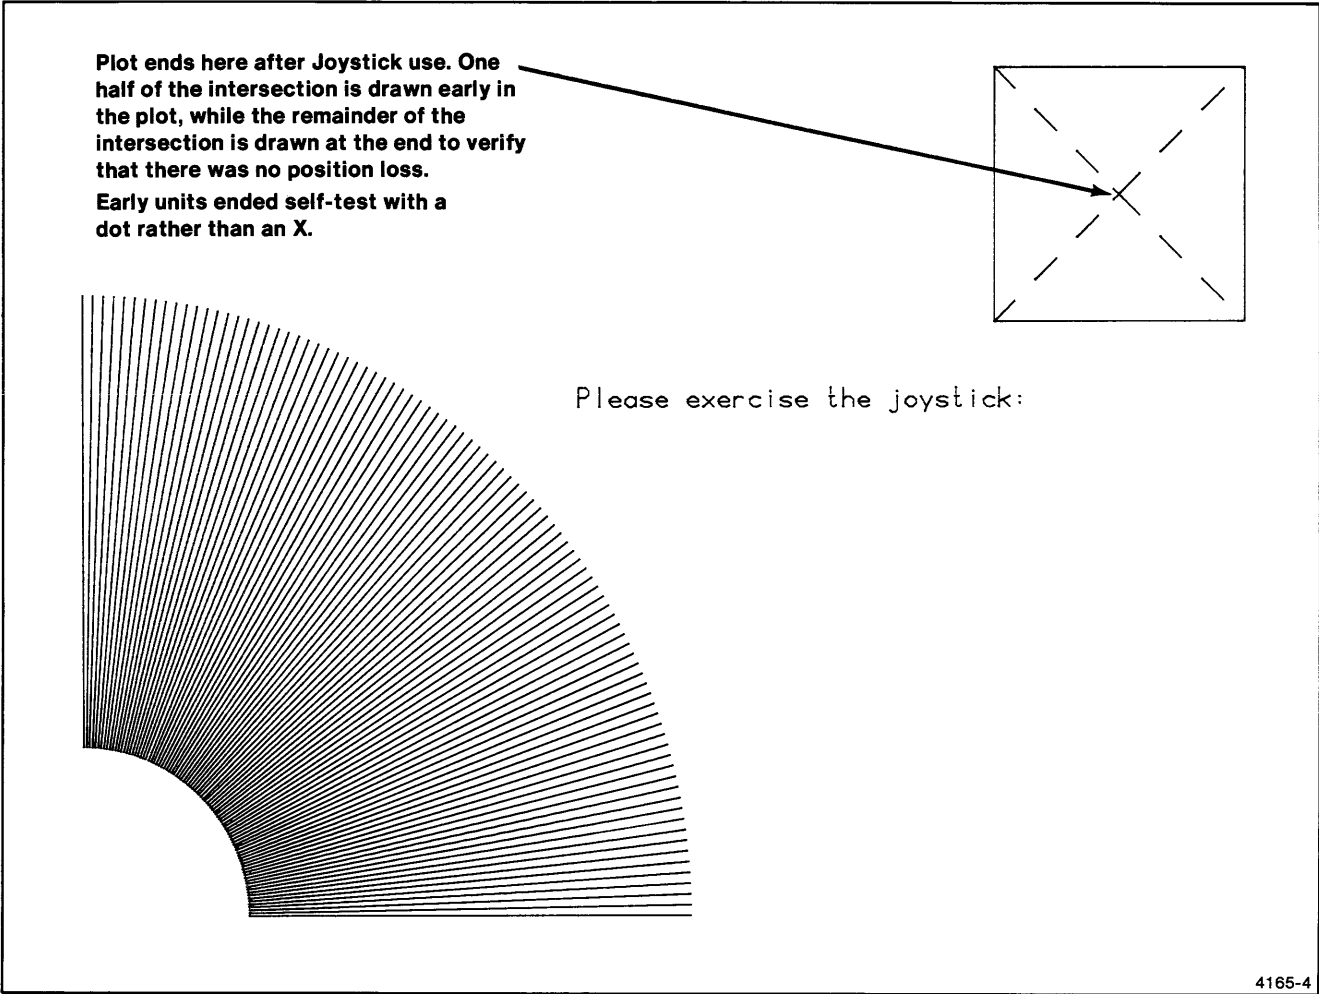

Figure 2-3. Self-Test Pattern.
1. Press the CALL switch and hold until the plotter sounds the bell twice (approximately two seconds). The plotter draws the pattern shown in Figure 2-3. To check on the plotter's performance, compare the plot obtained to the plot shown in Figure 2-3.
1. Press the CALL switch and hold until the plotter sounds the bell twice (approximately two seconds). The plotter draws the pattern shown in Figure 2-3. To check on the plotter's performance, compare the plot obtained to the plot shown in Figure 2-3. Notice the speed at which each vector is drawn as this speed will be compared to the slow speed later in this procedure. The plotter always powers up in fast speed (see Specifications).